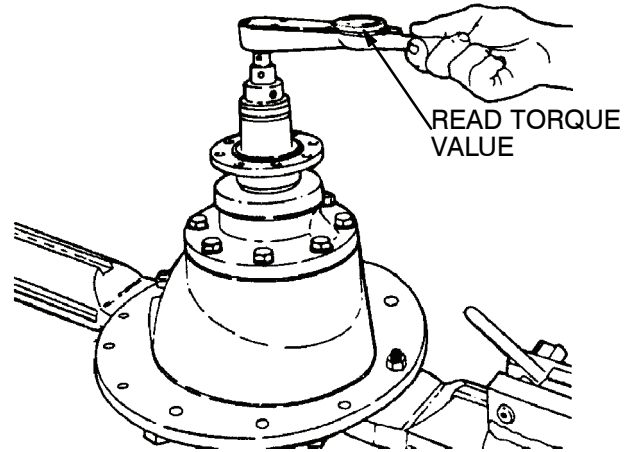

Figure 122.
- (g) Attach a torque wrench on the drive pinion nut. Rotate the drive pinion and read the value indicated on torque wrench. Figure 122.